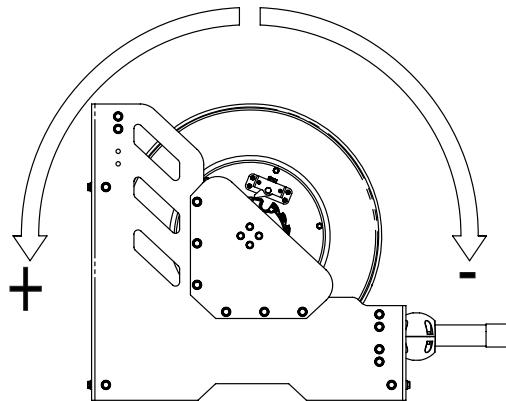

Fig. 6
3. Once the hose is completely wound around the spool (the power springs still will be with no tension), apply the pretension to the power springs by turning the spool the number of turns stated in the table depending on the hose length (see table), turning in positively direction as shown in (Fig. 6). Do not apply more tension than stated, as the power springs could be damaged.
3. Clean the components, or replace the ratchet assembly with a new one. In the case of unscrewing the ratchet shaft (3) (Fig. 6), be sure to clean the thread and apply medium-strength threadlocker before screwing it back into the plate (4) (Fig. 6).
4. Assemble the ratchet assembly in place and tight the 2 bolts (1) (Fig. 6).
4. Turn the spool to increase or decrease the power springs tension. Never exceed the turns indicated in the table (Fig. 6).